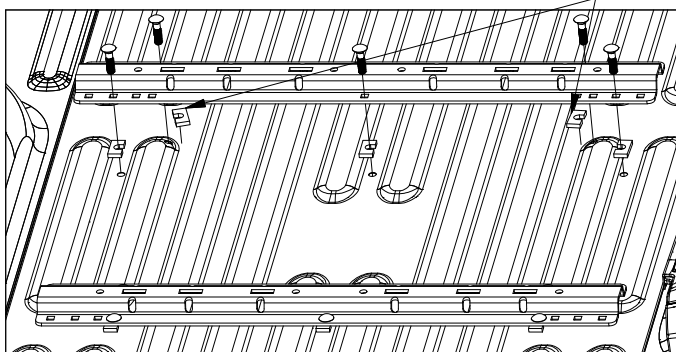

Figure C3: View looking into truck bed from rear of truck.
4. **The forward mounting rail.** Re-position the forward mounting rail over the drilled 9/16" holes in the bed. Install five 1/2" X 2" carriage bolts through the five drilled positions, as shown in Figure C3. Place a U-shaped spacer between the bed and the mounting rail at the five drilled positions.